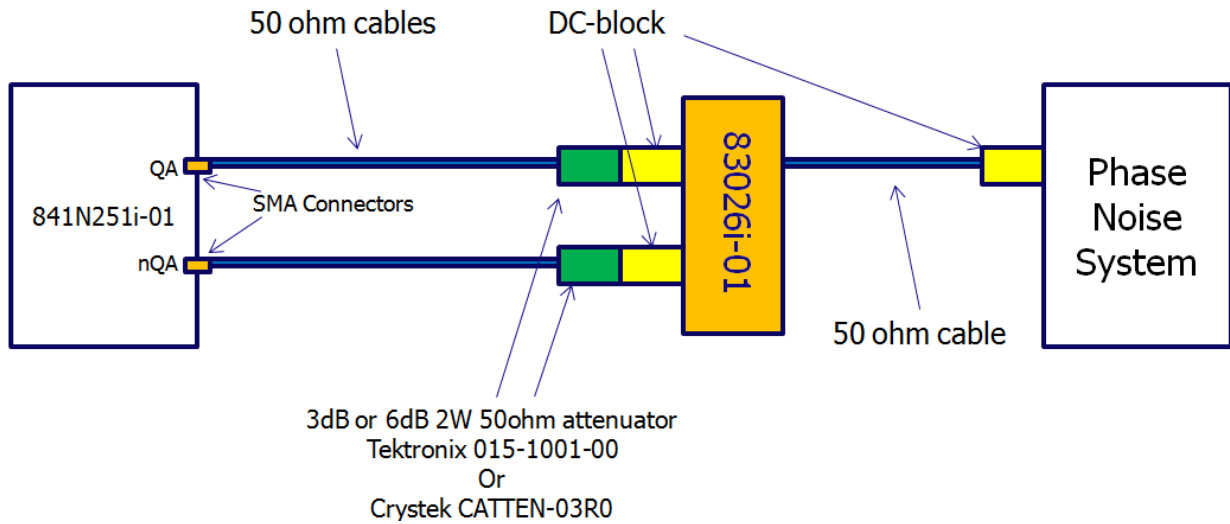

Figure 5. Differential-to-Single-Ended Buffer Setup for Phase Noise Measurement
- Figure 5. Differential-to-Single-Ended Buffer Setup for Phase Noise Measurement 4
Figure 5 shows the setup where the balun has been replaced by a differential-to-single-ended buffer. The Renesas 83026i-01 evaluation board provides a CMOS output and can be used for these measurements.